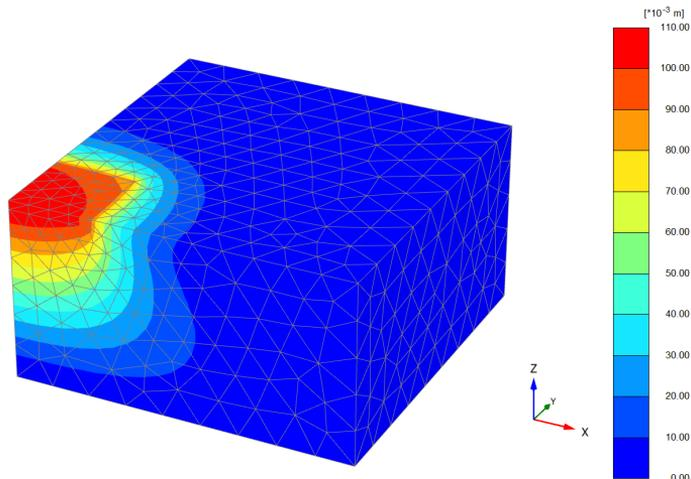

Figure 1.16 Shadings of *Total displacements* at the end of the last phase
- Select *Total Displacements* → $|u|$ from the *Deformations* menu. The plot shows colour shadings of the total displacements (Figure 1.16).